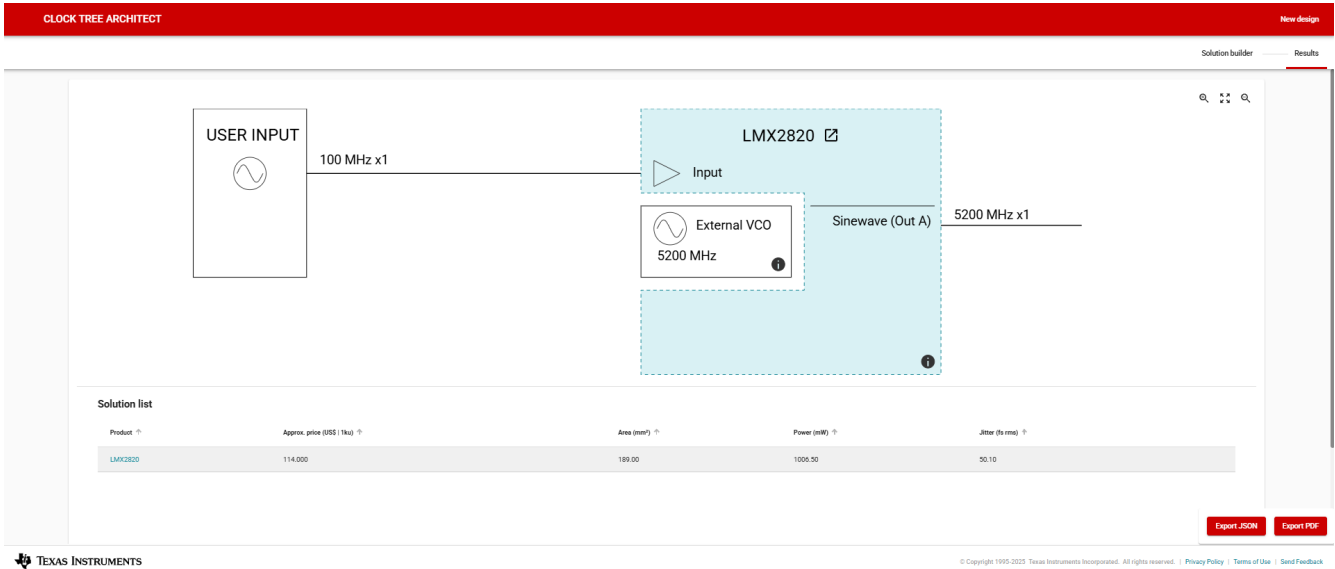

Figure 9-8. Results Page Showcasing Top Clocking Recommendations Matching Your Application's Requirements
6. After a few minutes (sometimes several minutes), CTA generates a list of clocking schemes that meet your system requirements. The results are organized from TI's best recommendation to worst. Figure 9-8 shows the results for this example, clearly recommending the LMX2820.